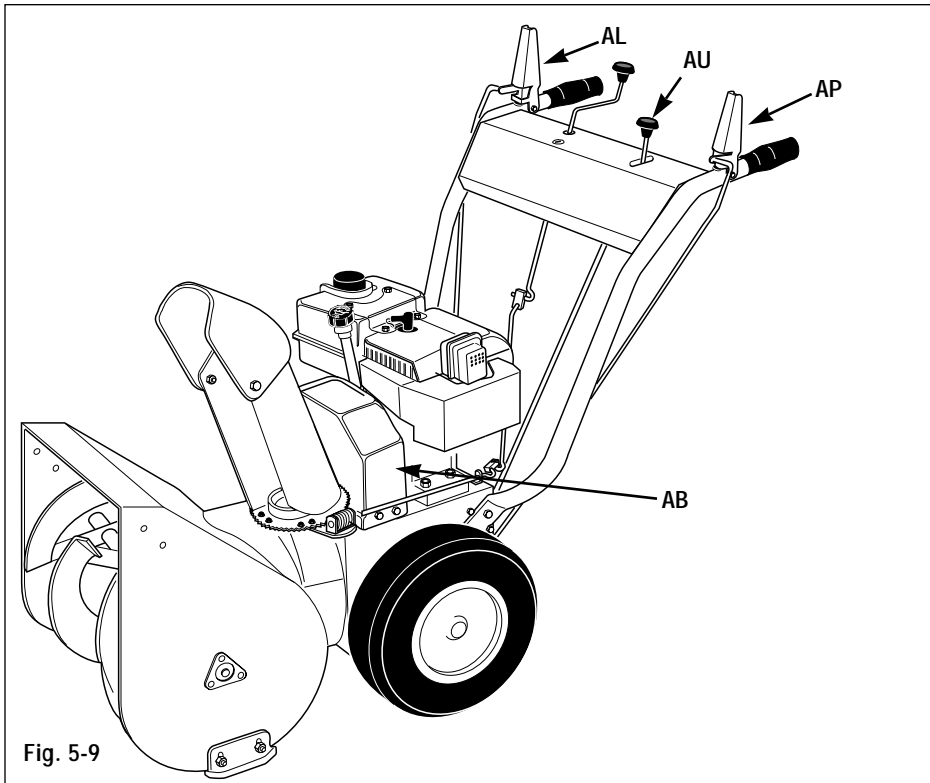
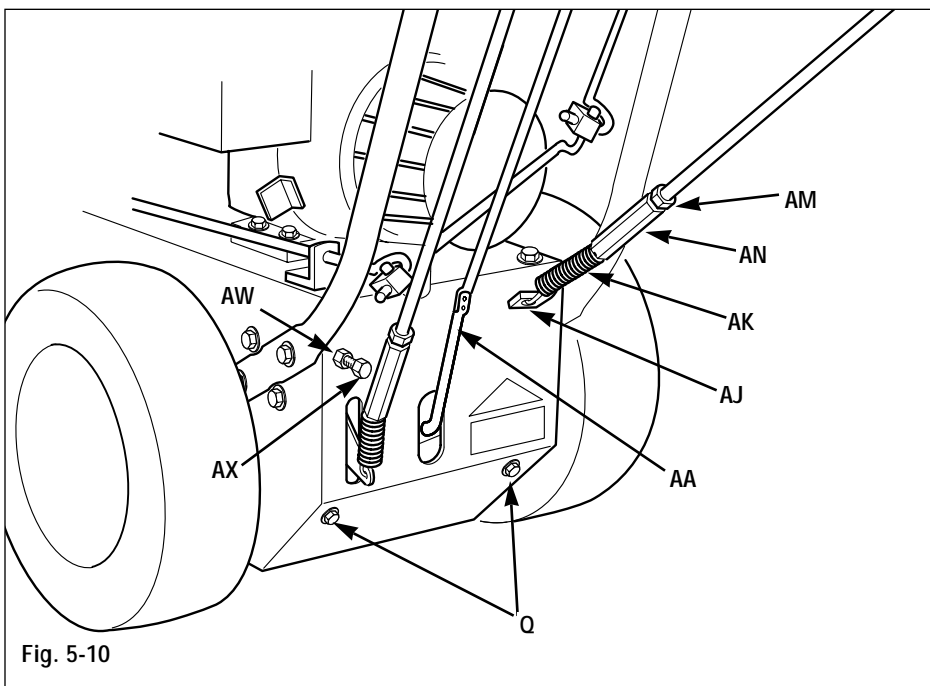
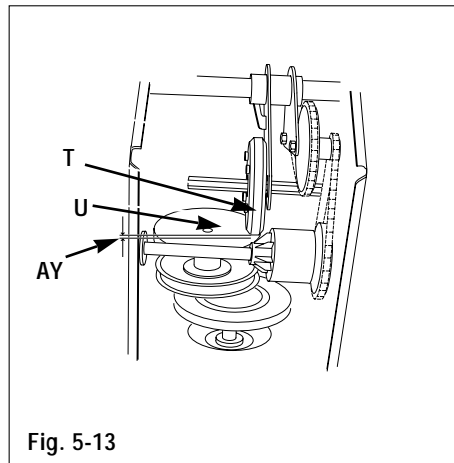
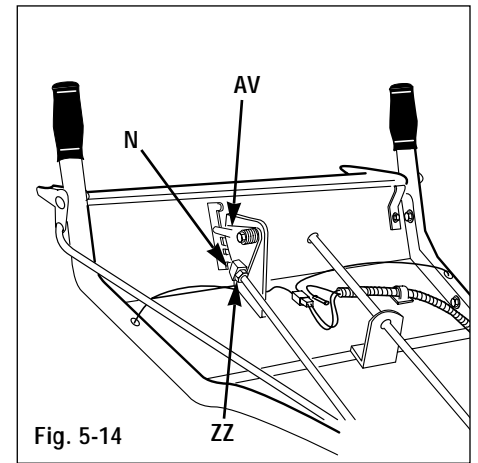

Fig. 5-9
Fig. 5-10
Fig. 5-13
Fig. 5-14
2. If assembling a new unit, raise the wheel drive control lever (AP, Fig. 5-9) and the auger drive control lever (AL).
3. Pull the auger drive control arm (AJ, Fig. 5-10) down completely.
4. Measure and note the length of the spring (AK, Fig. 5-10).
5. Squeeze the auger drive control lever (AL, Fig. 5-9) against the handlebar. Measure the length of the spring (AK, Fig. 5-10) again. The spring length should now measure $9/16"$ – $11/16"$ (14–17mm) longer than the measurement taken in step 4. If it does not, loosen the jam nut (AM) and turn the adjuster (AN) to increase or decrease the length of the spring. Hold the adjuster and tighten the jam nut (AM) when the correct spring length is obtained. Re-check the measurements and adjust if needed.
1. Remove the bolts, flat washers, and lockwashers securing the belt cover (AB, Fig. 5-9) to the unit. Remove the belt cover.
1. Move the gear shift lever (AU, Fig. 5-9) to position No. 5. Remove the hairpin cotter and the flat washer from the pivot block (N, Fig. 5-14). Disconnect the pivot block (N) from the gear shift lever plate (AV, Fig. 5-14).
2. Pull the gear shift control rod (AA, Fig. 5-10) down completely.
3. While holding the gear shift control rod down (AA), loosen the jam nut (ZZ, Fig. 5-14) and thread the pivot block (N) up or down as needed so it fits into the hole in the gear shift lever plate (AV).
4. Reinstall the pivot block into the gear shift control lever hole and secure with the washer and hairpin cotter. Secure the jam nut (ZZ) against the pivot block (N).
5. Move the gear shift control lever (AU, Fig. 5-9) through the full range of travel. Check for binding. Refer to the drive disc clearance adjustment below, if needed.
If the gear shift rod lever does not move freely through all the gear positions, adjust clearance (AY, Fig. 5-13) as follows:
1. Loosen the jam nut (AW, Fig. 5-10). Rotate the adjusting screw (AX) until the rubber drive wheel (T, Fig. 5-13) contacts the metal drive disk (U).
2. Turn the rubber drive wheel (T) and the metal drive disk (U) to find the point of minimum clearance (AY). (This is where both the drive wheel [T] and metal disk [U] are touching.)
3. Adjust the disks at the point of minimum clearance. Loosen adjusting screw (AX) 1/2 turn. Secure the adjusting screw (AX) in place, while tightening the jam nut (AW).
4. Check the clearance (AY, Fig. 5-13) by moving gear shift lever (AU, Fig. 5-9) through all positions. Repeat step 3 as necessary.
1. Remove the bolts, flat washer, lock washer and belt cover (AB, Fig. 5-9).
2. Squeeze the auger drive control lever (AL, Fig. 5-9) against handlebar.